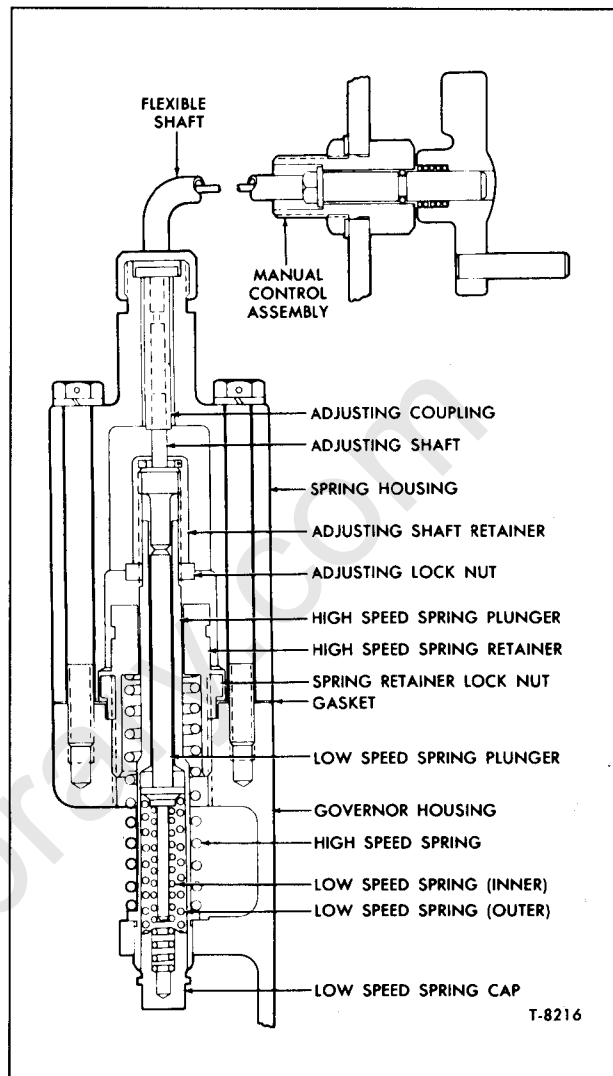

Figure 2—Variable Low Speed Limiting Speed Mechanical Governor Spring Housing and Components (Typical)
The variable low-speed limiting speed mechanical governor (fig. 2) used on Series 53 and 71 Diesel engines is used where the same engine powers both the vehicle and auxiliary equipment and a high rpm idle range is desired during the auxiliary operation.
3. Make the preliminary idle speed (550 rpm minimum) adjustment as follows (figs. 2 and 3).